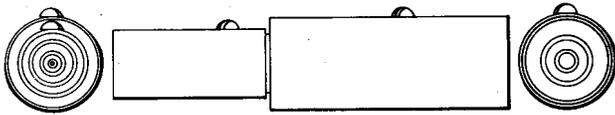

Fig. 6—807A or B Connector
2.08 807A and B: The 807A and B connectors (Fig. 6) are of a coaxial type. They are arranged at one end for solderless shield connection to a 728A or similar-type cable by means of a KS-15712, L22, shield connector. The other end is arranged for connection to coax (corrugated-laminated) cable.